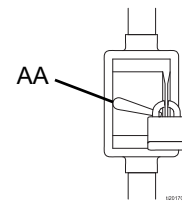

FIG. 9: Electrical Disconnect
NOTE: Ensure that the electrical disconnect (AA) is shut off and locked out before wiring. See FIG. 9.